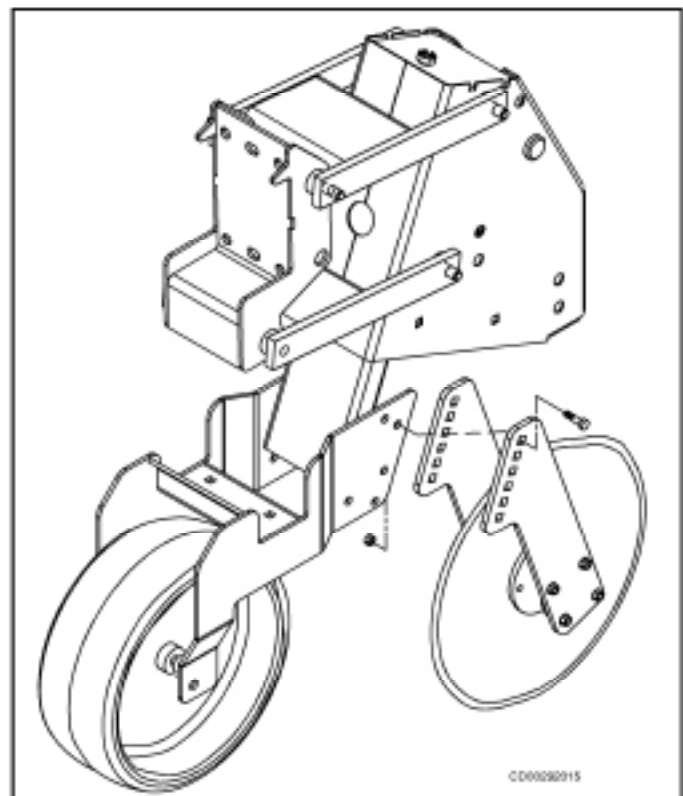

Figure 27 Disc Mount Assembly
2. Mount disc/hub assembly to disc mount arms, using 3/8 NC x 1-1/2 hex head cap screw as shown in Figure 27.